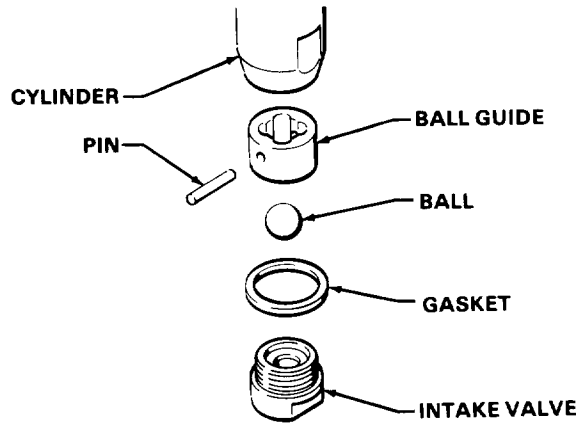

Fig 9
Disassembling the Pump (Refer to Figures 9 and 10.)
1. Unscrew the intake valve from the cylinder. Remove the gasket, ball guide, stop pin and ball from the valve. Clean and inspect the parts for wear or damage, replacing parts as needed. *Always* use a new gasket (included in Repair Kit 218-303). Refer to Fig 9.